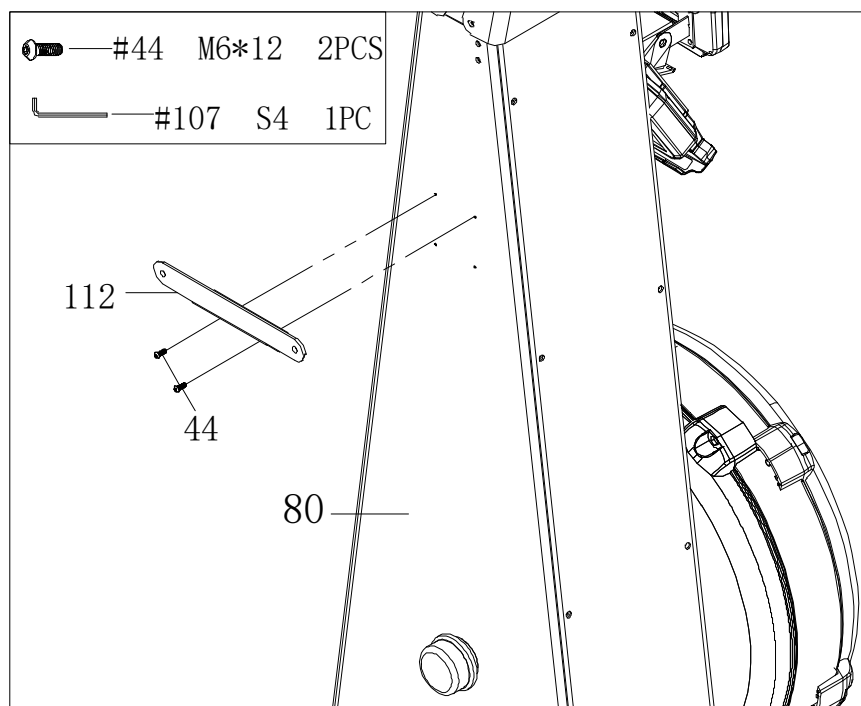

Fig. 18
2. Fix the fixed bracket (112) to the back connecting plate (80) with two bolts (44) (Fig. 18).